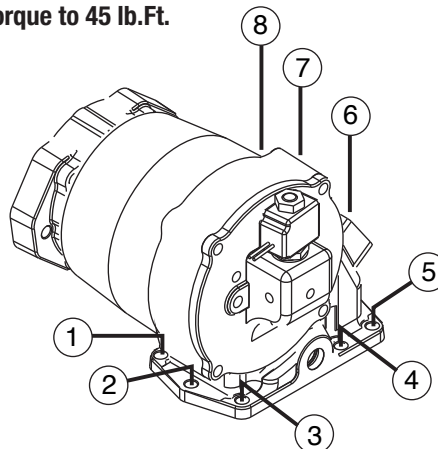

Figure 1. - CAPSCREW PLACEMENT
The two(2) 25mm long capscrews are to be used in positions 1 and 3 as shown in diagram (Fig. 1). The six(6) 30mm long capscrews and six(6) special lock washers are used in positions 2, 4, 5, 6, 7, & 8.
1. Place the flange (17b) on to the Clutch Hub (17a) so that the recessed area of the flange is against the splines. Fig. 1.